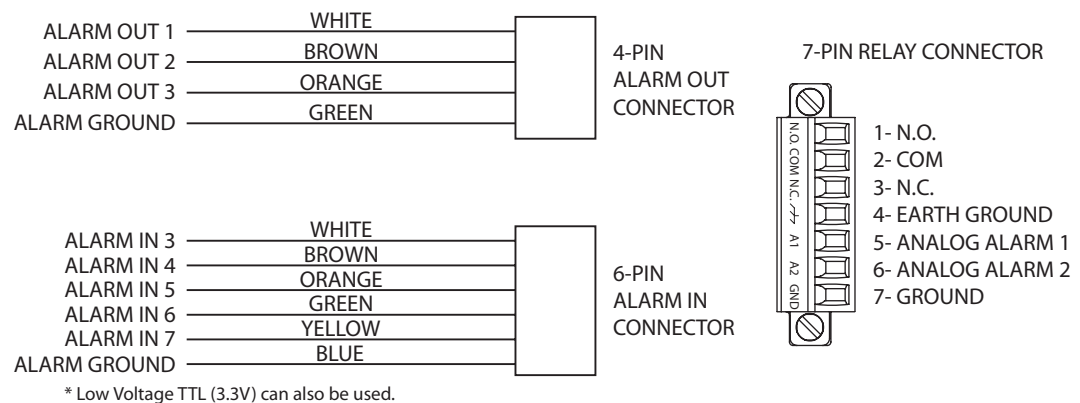

Fig. 1.4 Alarm and relay connectors
8. If you are connecting supervised alarms and relays, attach the supplied 7-pin Relay Connector to the appropriate incoming wires. See *Figure 1.4*, above, for the wire connections. See *Chapter 5: Alarms and Relay Connections* for more details about wiring alarms and relays.